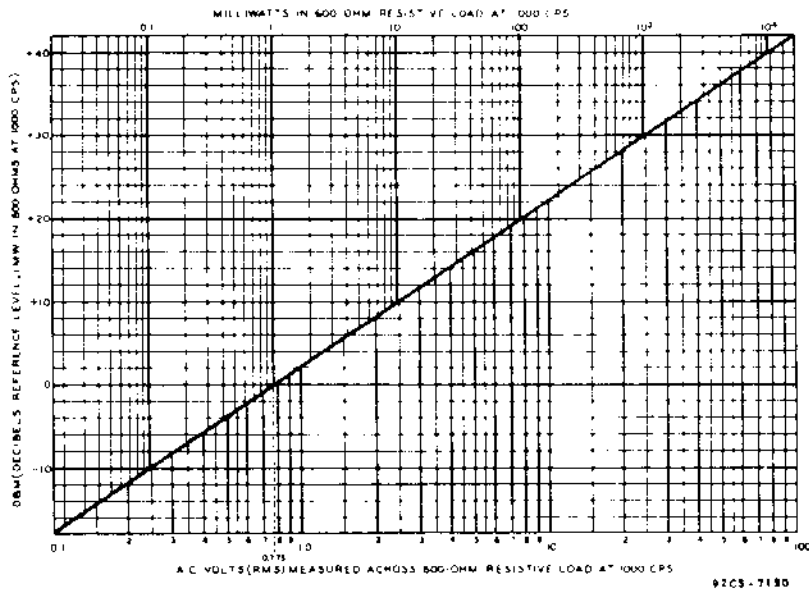

Figure 5. Graph for conversion of rms to dbm values
The graph makes possible rapid conversion of RMS voltages to corresponding dbm values. Associated power levels can be read along the top of the graph. If the RMS voltage is measured across a resistive load other than 600 ohms, the correction factors given below must be added algebraically to the dbm values read from the graph in Figure 5. For resistive loads not given in the table, the following formula should be used for determining the correction factor:
*DBM is the increment to be added algebraically to the dbm value read from Figure 5.